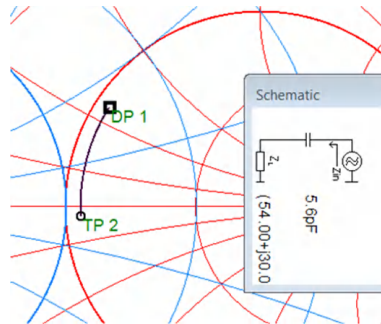

Figure 5-3. Matching the Low-Band With C_{Low} : 5.6 pF and L_{Low} : NC
- C_{LOW} : 5.6 pF and L_{LOW} : NC; see Figure 5-3